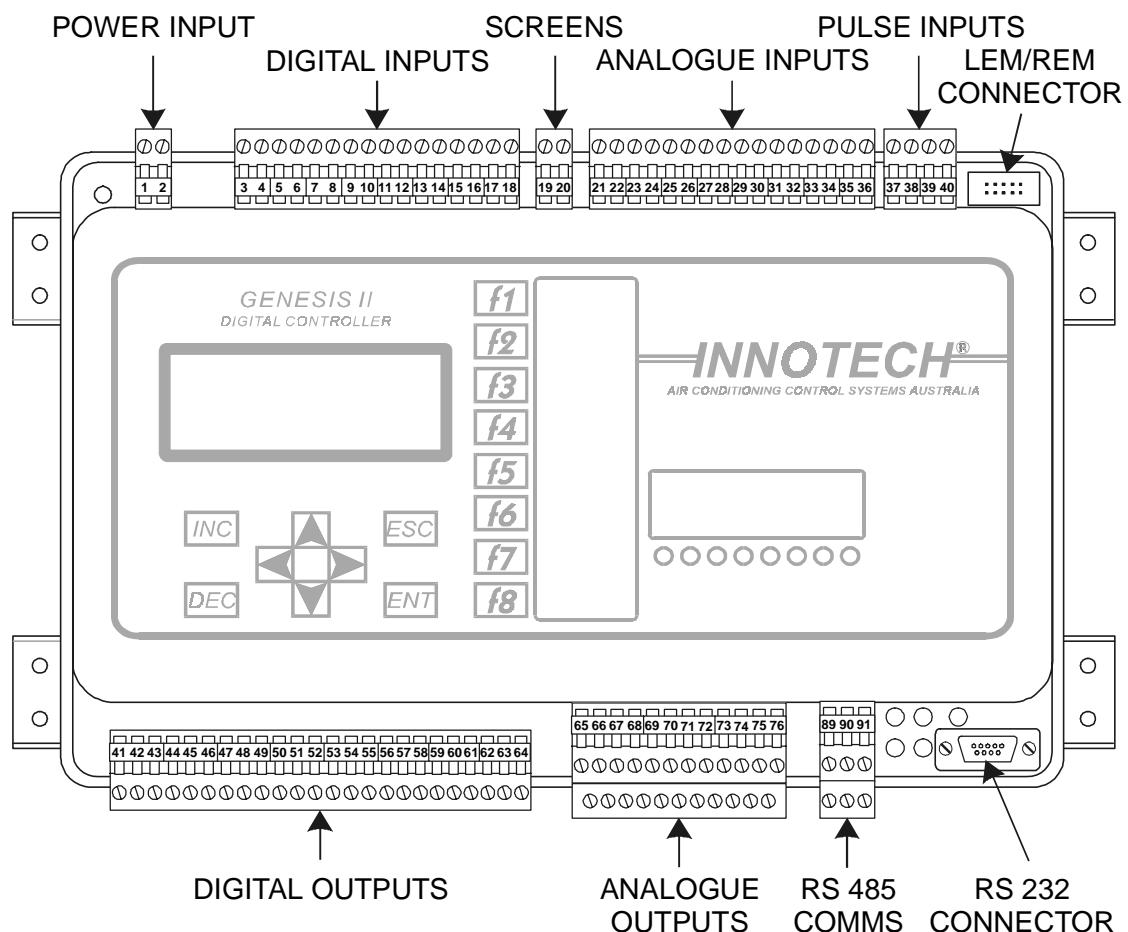

Figure 3-2. Genesis II Digital Controller Input/Output Terminals.
**3-3.1. GENESIS II DIGITAL CONTROLLER.** Figure 3-2 shows the input/output connection groups for the Genesis II Digital Controller. The controller uses Phoenix type plug-in terminal strips located around the controller's perimeter. Both single row and double row terminals are used. Terminals are grouped by function as follows:
**Terminals 19 and 20 (Figure 3-2) are provided for terminating analogue cable screens.**